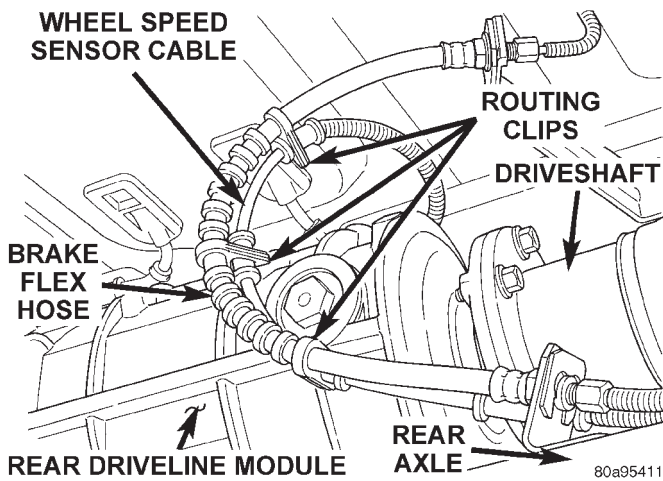

Fig. 44 Speed Sensor Cable Attachment To Brake Flex Hose
(4) Carefully remove the speed sensor cable from the rear brake flex hose routing clips (Fig. 44).